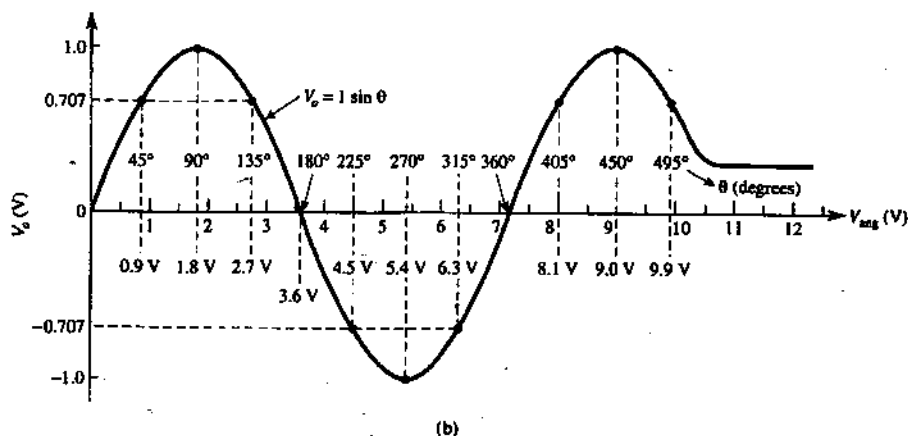

FIGURE 6-11 (Continued)
The AD639 is wired to output  $V_o = 1 \sin\theta$  in Fig. 6-11. There are four input terminals: 1, 2, 7, and 8. Wired as shown, the chip performs a sine function. Pins 3, 4, and 10 control gain.
**FIGURE 6-11** The AD639 is pin-programmed in (a) to act as a sine function generator. Each  $\pm 20$  mV of input angle voltage corresponds to an input angle of  $\theta = \pm 1^\circ$ . Output  $V_o$  equals  $1 \times \sin \theta$ . (a) The AD639A is pin-programmed to output the sine of the angle voltage; (b) output voltage  $V_o$  equals the sine of  $\theta$  if  $\theta$  is represented by an angle voltage of 20 mV per angular degree.
**Solution** From Eq. (6-13) and Fig. 6-11,
$\pm 15\text{-V}$  supply limits the guaranteed usable input angle to  $\pm 500^\circ$ , or  $\pm 10.000\text{ V}$ . We extend the results of Example 6-12 to summarize briefly the performance of the sine function generator in Table 6-1 and Fig. 6-11(b).
In Fig. 6-11(b),  $V_o$  is plotted against both  $V_{\text{ang}}$  and  $\theta$ . A study of this figure shows that if  $V_{\text{ang}}$  could be varied linearly by a triangle wave,  $V_o$  would vary sinusoidally. Further, if the frequency of the triangle wave could be varied easily, the sine-wave frequency could easily be tuned, adjusted, or varied. We pursue this observation in the next section.
Connect the precision triangle-wave oscillator in Fig. 6-10 to the sine function generator in Fig. 6-11 to construct the precision sine-wave generator in Fig. 6-12. As a bonus, we also have precision triangle-wave and square-wave outputs. The 1.80-V reference voltage of the AD639 is connected to modulation inputs 16 and 17 of the AD630 modulator (Fig. 6-9). Circuit operation is now examined by reference to Fig. 6-12.